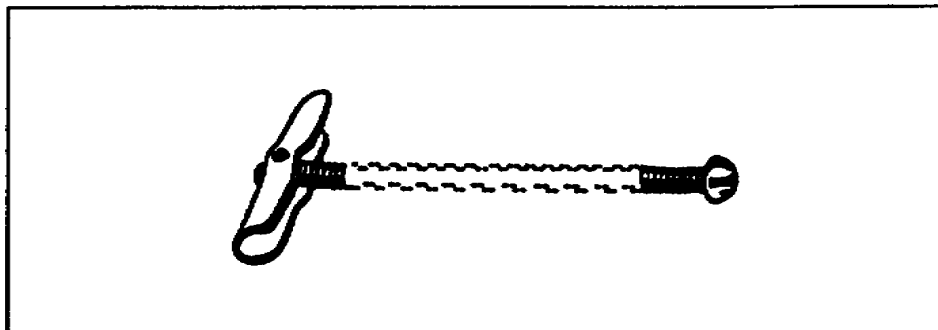

Figure 1-49. Pivot-type toggle bolt
(1) Pivot-Type. The pivot-type has a bent-steel channel with the nut slightly off-center so that one end of the channel is heavier than the other (Figure 1-49). A hole is drilled into the hollow wall or block. The heavy end of the nut drops down at a right angle to the bolt when it is inserted into the hole. The nut will pull up tight against the drywall or block as the bolt is tightened.